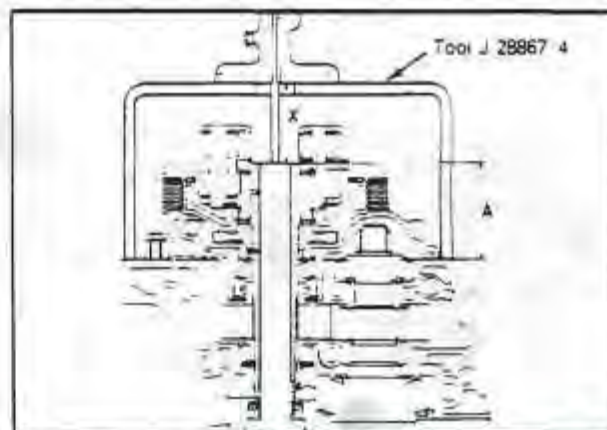
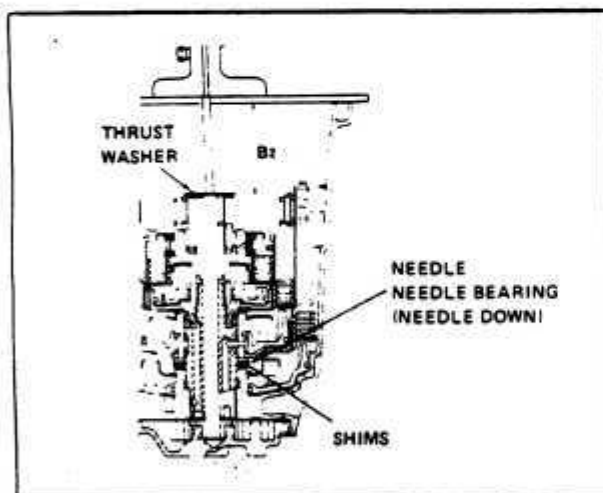

Fig. 41 PLANETARY CARRIER TO FINAL DRIVE CASE MEASUREMENT
Fig. 42 TRANSMISSION END PLAY ADJUSTMENT
- b. Position the special measuring tool J 28867 / 4 (part of the A/T tool kit) on the final drive case without the gasket. *Fig. 41*
Use a depth gauge to measure the distance "X" *Fig. 41* from the top face of the special tool to the top of the planetary carrier shaft. THRUST WASHER REMOVED.
- c. Subtract "X" *Fig. 41* from 120 mm (4.724 in.) to obtain the dimension "A", *Fig. 41*
- d. Install clutch C2 in the transmission case. Rotate the clutch until it engages all of the brake B1 discs and is fully seated. *Fig. 42*
- e. Fit the washer on clutch C2 with the flange on the washer facing towards clutch C2. *Fig. 42*
- f. Place the needle roller bearing on top of the washer with the needles facing the washer. *Fig. 42*
- h. Place the thrust washer on the hub of clutch C1. *Fig. 42*
- i. Clean the contact surface of the transmission case and place a straight edge across the face of the transmission. *Fig. 42*
Use a depth gauge to measure the distance "B" from the top of the straight edge to the top of the thrust washer on the hub. *Fig. 42*
- k. Calculate the end play clearance by *subtracting* dimension "A" *Fig. 41* from dimension "B". *Fig. 42*
End play clearance should be between 0.37 – 0.74 mm (0.015 – 0.029 in.). If the clearance is not within specifications, it will be necessary to increase or decrease the thickness of the shim(s) located between the transmission case and clutch C2. *Fig. 42*